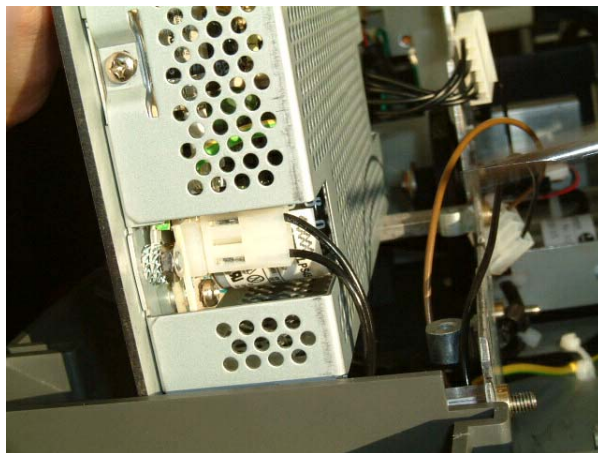

Fig.31
- On the left side disconnect the plug (Fig.31)